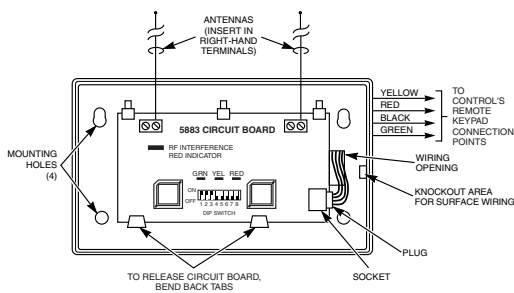

Figure 3. 5883 Transceiver
**First, Check for RF Interference:** Before mounting permanently, use the red RF Interference LED (see figure 3) to check for strong local radio frequency interference at the intended mounting location. If this LED is continuously lit, the 5883 module should be relocated.
1. Insert the wiring plug (with 4 flying leads) into the mating socket on the 5883 (see Figure 3 for socket location).
## LED FUNCTIONS (refer to Figure 3)